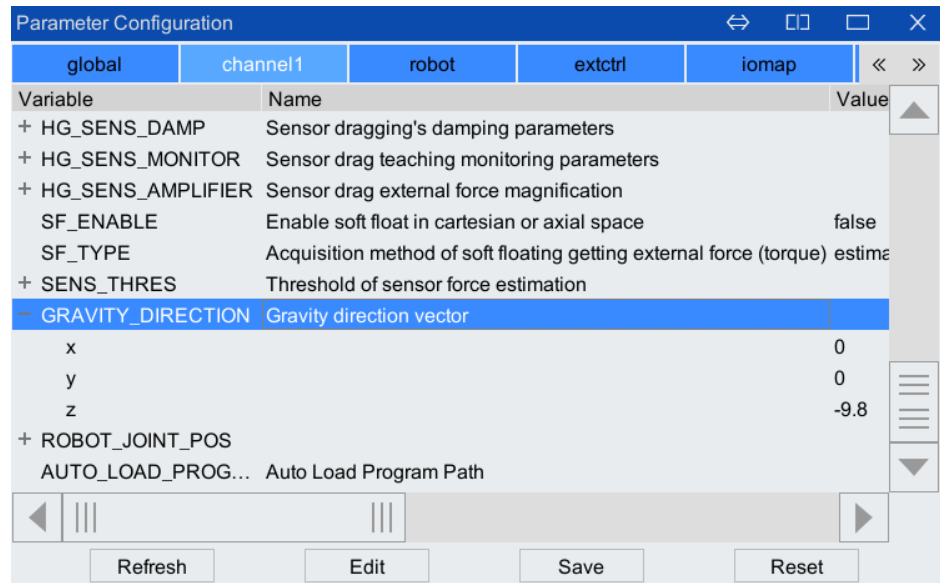

Figure 5-100 View channel parameter interface
Step6. On the main interface of the teach pendant, click "System>Parameter Configuration>Channel", click [+] in front of [GRAVITY\_DIRECTION (gravity direction vector)], and you can view the calculation result of the installation angle in the expanded parameter value, as shown in Figure 5-100.